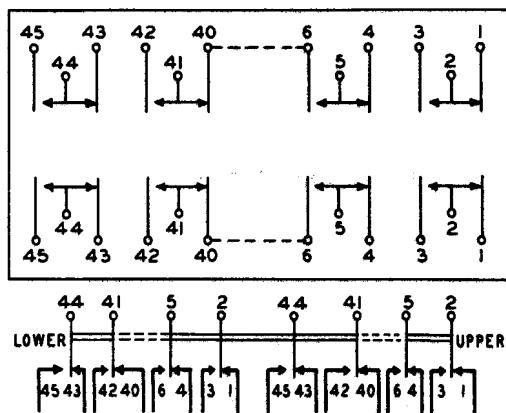

Fig. 93 — Spring Terminal Arrangement as Viewed From the Rear (terminal side) — 202-, 211-, and 212-Type Switches
**3.06** The spring terminals of these switches are numbered consecutively from 1 up from right to left as viewed from the terminal end of the switch as shown in Fig. 93. Where the word top or upper is associated with a spring combination on the schematic or if the suffix T is used in connection with a terminal number, this refers to springs in the upper row of terminals. Similarly, the term lower or bottom or the suffix B refers to terminals in the lower row.